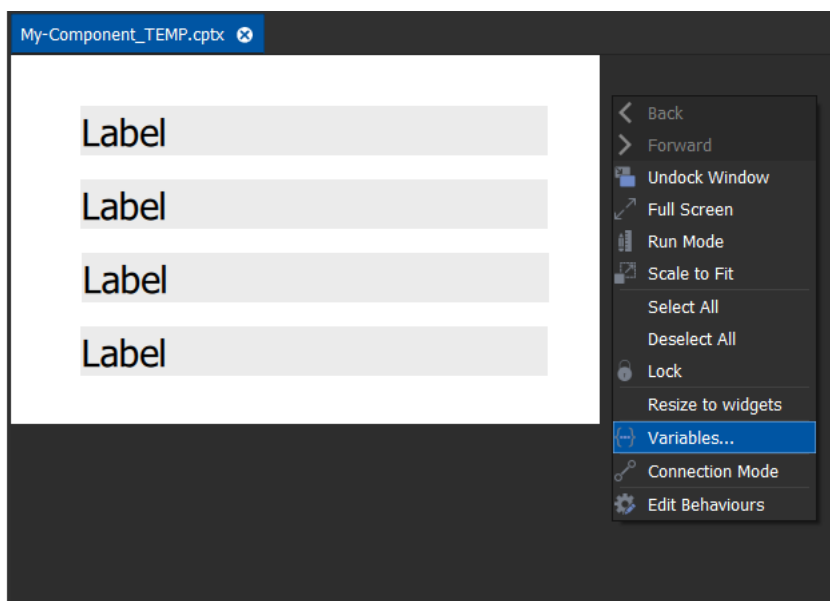

Fig. 4-35: New-Component: Right-click on Component Background and Select 'Variables'
- 2 Right-click on the component *background* and select 'Variables'. See Figure 4-35.